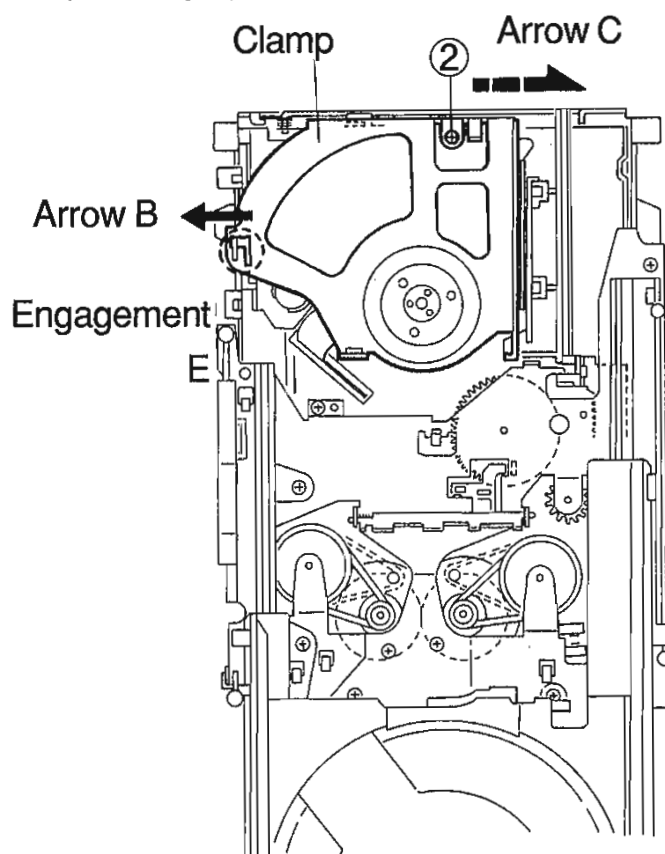

Fig.3
5. Remove the one screw 2 retaining the clamber (See Fig.3).
6. After moving the clamber in the arrow B direction and shifting it in the arrow C direction, take it out from the engagement section B (See Fig.3).